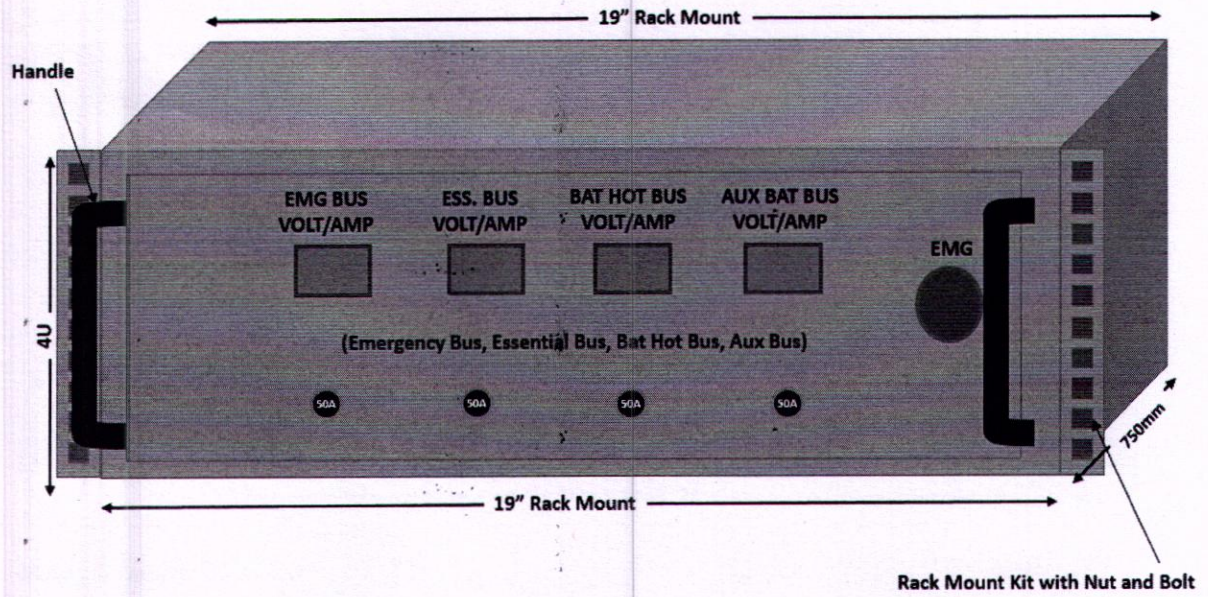

Figure 5: Front Panel of PDU 3
- Front panel shall be installed with Emergency stop switch, CBs and digital voltmeters with legends to indicate the name of each bus as shown in **Figure 5**.